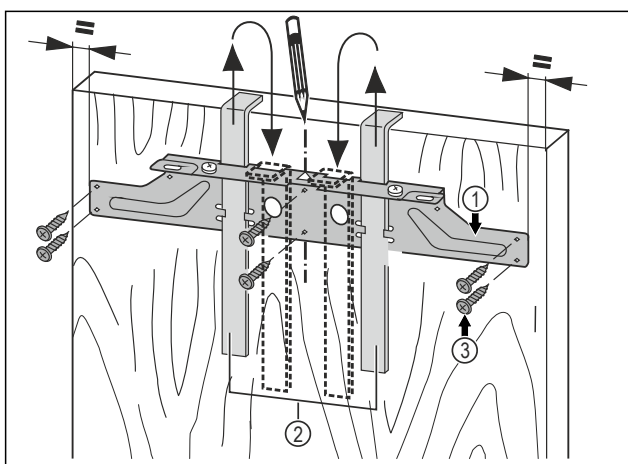

Fig. 20
- Hang the fastening bar Fig. 20 (1) with the mounting aids on the inside of the unit door Fig. 20 (2).
- Align the fastening bar Fig. 20 (1) in the centre of the door.*
- Tighten the mounting bar Fig. 20 (1) with at least 6 screws Fig. 20 (3).
- Screw the mounting bar Fig. 20 (1) to the edge with 4 screws Fig. 20 (3).
- Pull the assembly devices Fig. 20 (2) upwards and push them, at an angle, into the receiving openings.